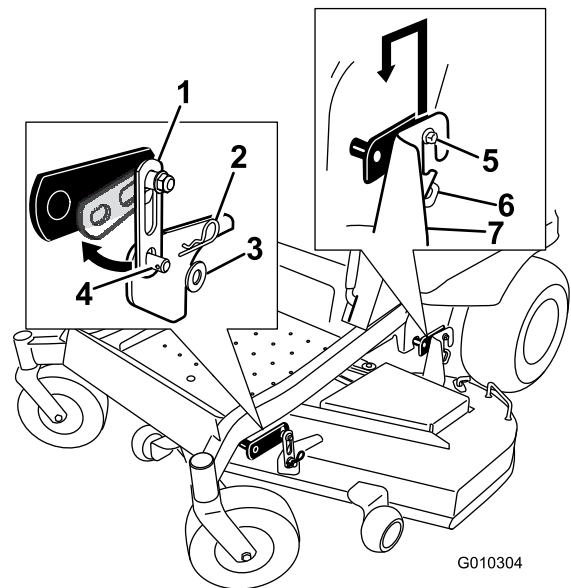

Figure 71
2. Remove the hardware from the front deck hangers on both sides of the deck (Figure 71).
3. Carefully lift the deck off the rear hanger bolts and lower the front of the mower deck to the ground (Figure 71).
5. Lift the rear of the mower deck and guide the hanger brackets over the rear hanger bolts (Figure 71).
6. Attach the front support on the mower deck to the front deck hangers and secure them with a washer and hairpin cotter (Figure 71).